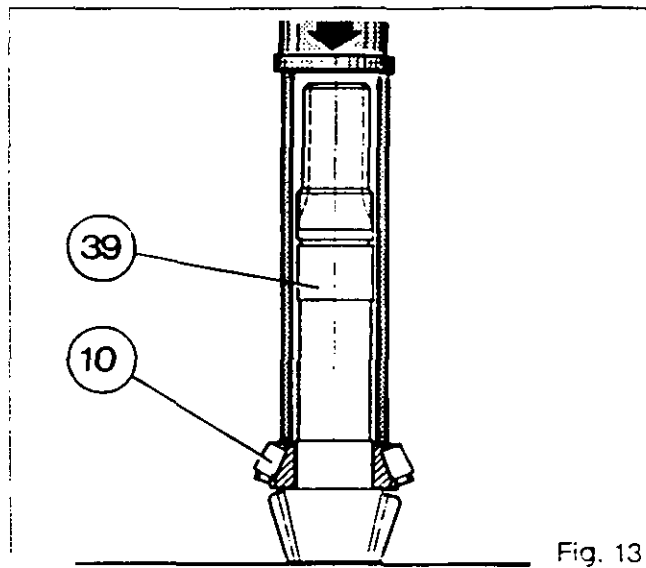
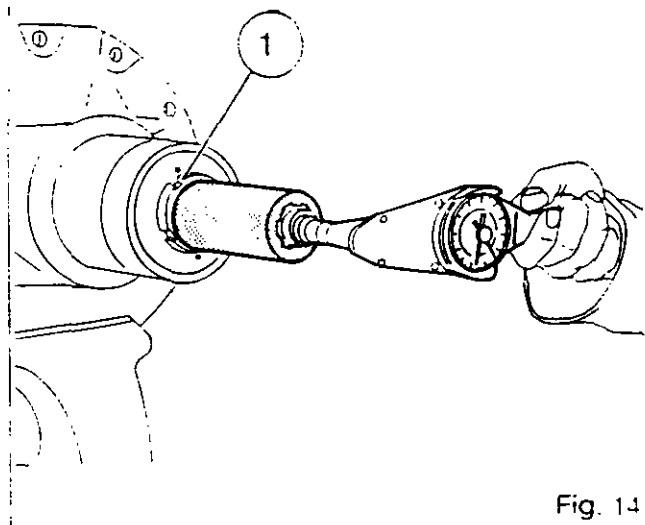

Fig. 13
Fig. 14
46. Remove the bearing cone (10) and cup (9) again.
47. Push the bearing cone (10) against the shoulder of the bevel drive pinion using a press and a suitable tool (Fig. 13).
49. Fit the cup (9).
50. Place the cup (6) in the casing as far as it will go.
51. Position the bevel drive pinion (39) prepared with the cone (10).
52. Smear the bearing surface of the bearing cone (5) with Loctite 601 and position it on the bevel drive pinion.
53. Fit the O-ring (41) (axles category 2.5 and 3), the O-ring (40) (axles category 1 - 2).
54. Smear the periphery of the sealing ring (4) with Loctite 542 and push it into the casing (7) as far as it will go, with the metal part turned towards the exterior of the casing.
55. Fit the seal (2) in the spacer (3) with the lip facing towards the interior of the housing.
56. Smear the interior of the spacer (3) with Loctite 601, then position it temporarily at the end of the bevel drive pinion. Grease the exterior of the spacer and the lip joint (2). Place the spacer finally in contact with the bearing cone (5).
57. Replace the nut (1), smear it with Loctite 270 and then tighten it lightly on the bevel drive pinion.
**Note: Check that there is clearance between the spacer (3) and housing.**
58. Rotate the bevel drive pinion through a few turns. Using a torque wrench and an adapted grooved sleeve, check that the rotational torque is between 2.5 and 3.5 Nm (Fig. 14). Tighten or untighten the nut (1) with Facom spanner n° 125-80 or equivalent until the desired rotational torque is obtained.
59. Lock the nut (1) by bending its collar in 3 equidistant grooves.